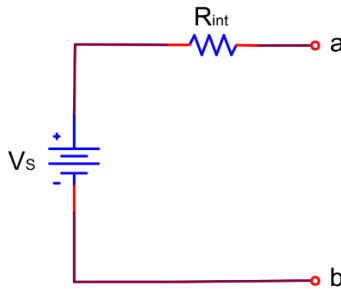

Figure 10.3
1. A voltage source can be modeled as an ideal voltage source in series with a resistance, R_{int} as shown in Figure 10.3.
The internal resistance of the voltage source (R_{int}) can be determined by placing a known resistance of R across the open terminals of the circuit in Figure 10.3. In doing so, the following procedure allows the student to measure this internal resistance and use it in circuits that are energized by voltage sources.